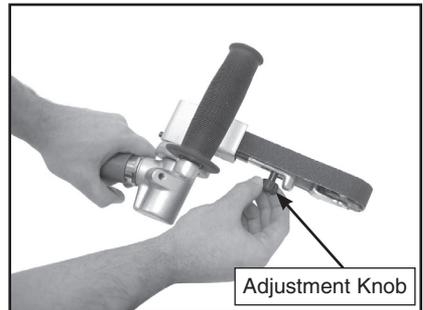

Figure 12. Belt tracking.
2. Hold the sander firmly and press the throttle lever to turn it **ON**. Once the belt has reached full speed, turn the adjustment knob to adjust the belt tracking. Turning the knob clockwise will move the belt towards the adjusting knob and turning the knob counter-clockwise will move the belt away from the adjusting knob (**Figures 12 & 13**).